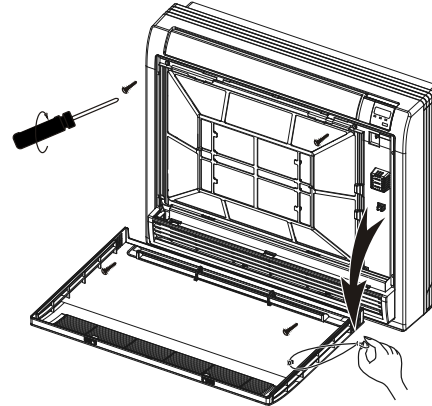

Fig.50-7
- Remove the string. (Refer to Fig.50-7).
- Remove the four screws. (Refer to Fig.50-7).